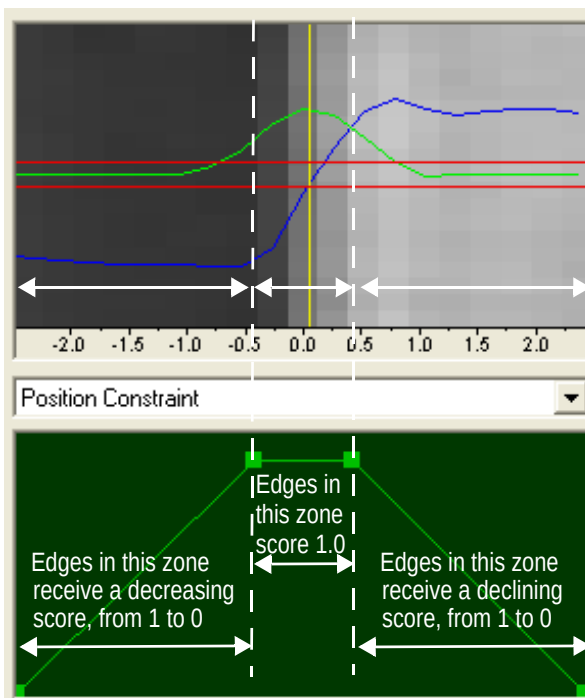

Figure 77 Position Constraint Histogram
2. Use the mouse to drag the handles in the histogram editor of the selected constraint. Set the Edge Position Constraint histogram as illustrated in Figure 77.